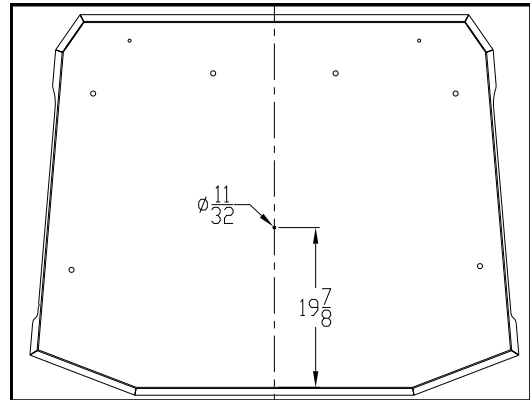

Fig. 3a
3. If no strobe light is installed on the canopy, drill an 11/32" hole at the location shown in fig. 3a (steel canopy) or 3b (plastic canopy).